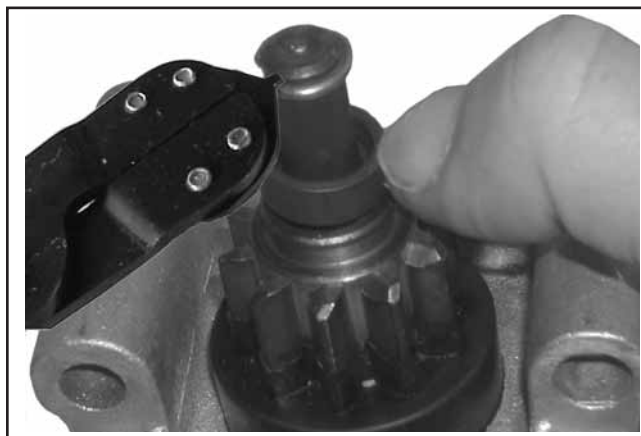

Figure 7-30. Removing Retaining Ring with Pliers.
3. Remove the retaining ring from the armature shaft using either a retaining ring pliers or snap ring removal tool (Kohler Part No. 25 761 18-S), as described in Steps 4, and 5. See Figures 7-30, 7-31, and 7-32. Do not reuse the old retainer.